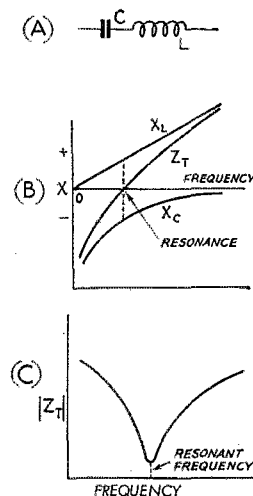
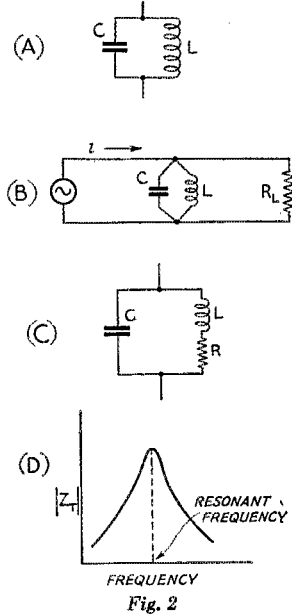

Fig. 1
Fig. 2
Fig. 1-A shows a simple series circuit consisting of a coil and condenser. Just as with resistors in series, where the resultant resistance is the sum of the resistances, the resultant impedance of the series circuit is the sum of the two reactances in series. Since the reactance of a coil or condenser varies with frequency according to the formulas:
Fig. 1-B shows the inductive and capacitive reactances of a series circuit plotted on the same graph. The sign of the inductive reactance is positive, while that of capacitive reactance is negative. If the values of these reactances are added at every frequency, the result will be the series-circuit impedance curve shown in Fig. 1-B.
The theory indicates that, because the net reactance is zero in a series-resonant circuit, the impedance would also be zero at resonance. This is not strictly true in practice, because there is always some resistance in the coil. It is true, however, that at resonance the impedance takes on a minimum value equal to the resistance of the coil, and that it increases on each side of resonance as indicated in Fig. 1-C. Fig. 1-C is a plot of
the absolute value¹ of the sum of the coil and condenser reactance curves of Fig. 1-B, taking into account the fact that the coil resistance prevents the impedance from going to zero at resonance.
Fig. 2-A shows a simple parallel circuit consisting of a coil and condenser. Such a parallel circuit may be thought of as a coil and condenser shunted across a line, as shown in Fig. 2-B. An oscillator or generator appears at the left-hand end of the line and a load (antenna or other device being driven) at the right-hand end. If the generator has internal resistance the maximum energy will reach the load when the coil and condenser combination has the least shunting effect. In other words, to have the greatest possible power in R_L , the current drawn by coil-condenser combination must be as small as possible in comparison to the current drawn by R_L . This condition will be attained if the impedance of the parallel-resonant circuit is high in comparison to R_L . A high impedance at resonance is a characteristic of the parallel-resonant circuit. We shall now see why this is so.
where Z_1 and Z_2 are the total series impedances of each parallel branch. For example, in the parallel-resonant case shown in Fig. 2-A, the resulting parallel impedance is given by the formula
Again considering the circuit shown in Fig. 2-B, it may be seen that, since the inductive reactance increases with frequency and the capacitive reactance decreases with frequency, the frequency at which the two reactances become equal will yield the highest impedance and thus the least shunting effect on the line. At frequencies somewhat greater than resonance the capacitive branch will have less reactance than the inductive branch (see Fig. 1-B) and so the parallel impedance approaches the reactance of the condenser alone. This is true, of course, because in parallel circuits the branch having the least numerical value of impedance becomes the controlling branch, the net value of the circuit impedance approaching the value of this smaller branch. At frequencies somewhat lower than resonance the inductive branch has a reactance smaller than that of the capacitive branch and thus becomes the controlling factor for the reason outlined above. It is seen that the impedance of a
at resonance in parallel-resonant circuits, it will be observed that the denominator of equation (10) for parallel-resonant impedance becomes zero, and thus the impedance is theoretically infinite at resonance. However, as mentioned previously, there is always some resistance in the coil which will prevent this from happening. This case is illustrated in Fig. 2-C. Substituting the impedances of the two parallel branches in equation (9), we get²
The parallel-resonant impedance can never become infinite so long as R is not zero, but it may be made large by causing R to be small in comparison to X_L . Fig. 2-D shows the impedance of a parallel-resonant circuit plotted against frequency.